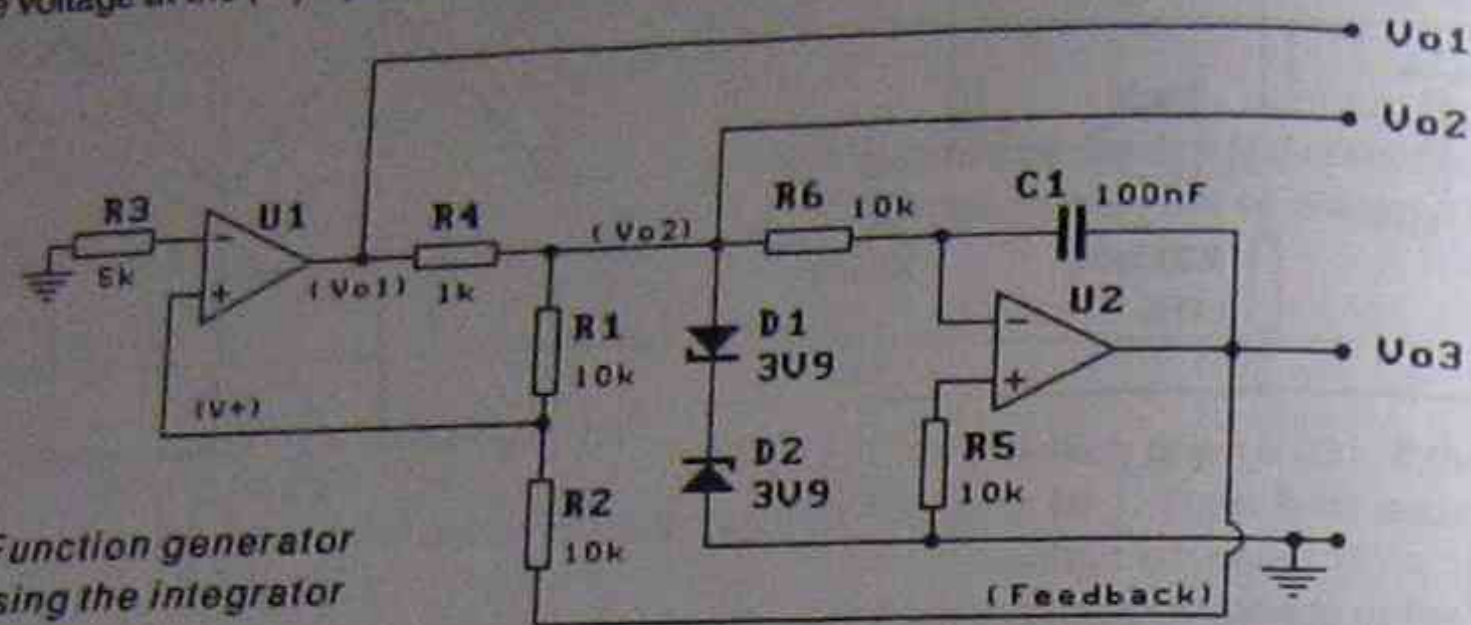

Fig.6: Function generator using the integrator
A function generator is a circuit used to produce a range of different waveshapes. Fig.6 shows a basic function generator with three outputs; a high level square wave, a square wave of restricted amplitude and a triangular wave. The circuit contains a comparator, (U1), and an integrator, (U2). Resistors R3 and R5 minimise the effect of input bias currents on the output waveforms, R4 limits the current to the zener diodes and R1 and R2 provide positive feedback to cause U1 to change state when the voltage at the (+) input of U1 is either slightly negative or slightly positive.
- For the circuit of Fig.6 in the theory notes, determine the value of V_{o2} and V_{o3} if V_{o1} equals +15V and capacitor C_1 is a short circuit.